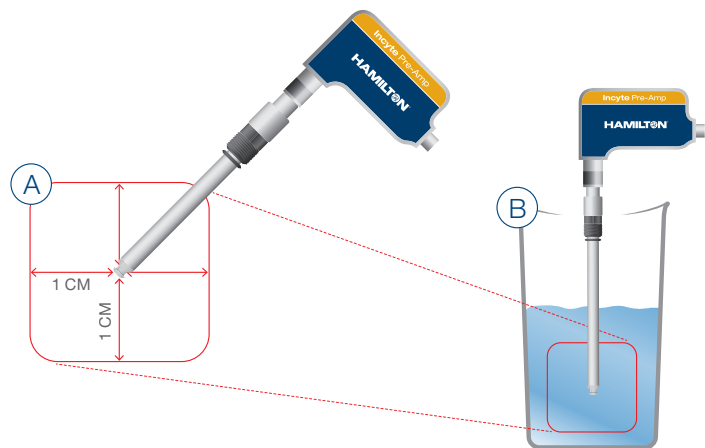

Figure 1: Mounting restrictions, A: Space requirements / B: Reactor mounting restrictions.
5. Mount the Unit in a stand and place in a 500 mL beaker (Figure 1). Select the most appropriate position for the sensor. The electrodes of the Incyte sensor have to be kept at least 1 cm away from the beaker wall.